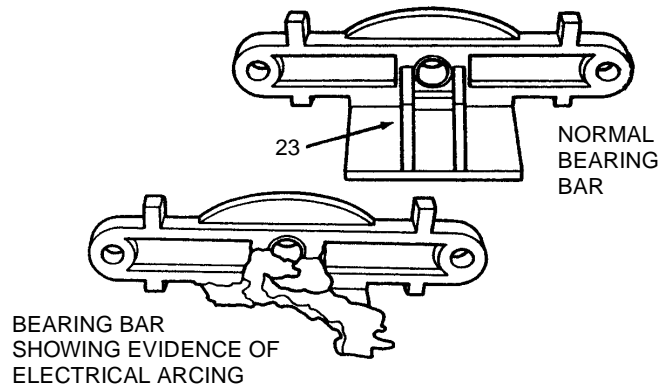

Figure 8
- (8) Electrical tracking or arcing in the distributor block and bearing bar (23) indicates contamination or lack of pressurization. See Figure 8. Check distributor block assembly according to instructions in paragraphs 3.B and C of this bulletin and Slick Maintenance and Overhaul Manual L-1037.